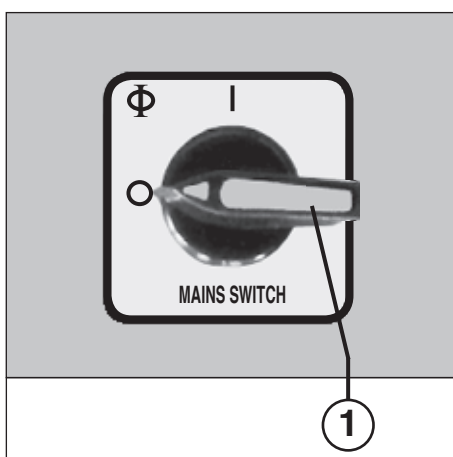

Fig. 1
- Move the main switch (1) (fig. 1) to position „1“.
OPERATING FUNCTIONS (Figs. 1, 2 and 4):
1 = Mains switch (Emergency-stop) (fig. 1)